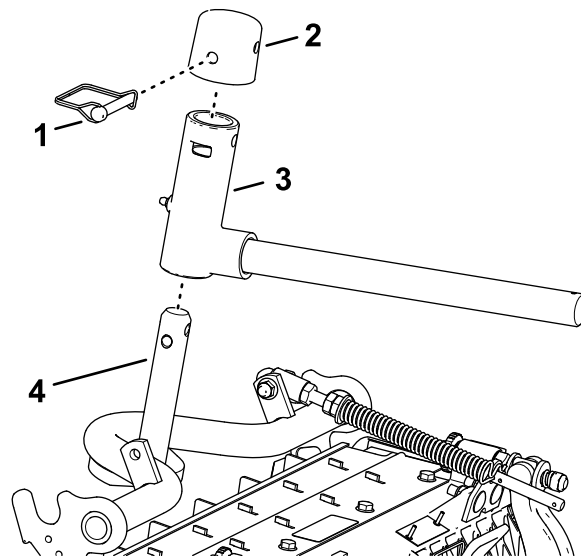

Figure 26
- Assemble the pivot yoke onto the carrier frame shaft (Figure 26).